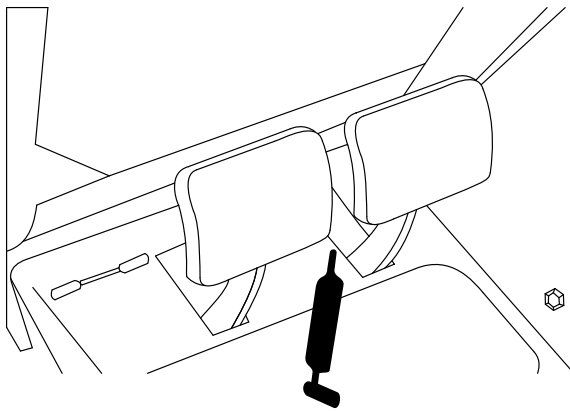

Figure 43
- Brake pedal shaft (1) (Figure 43)